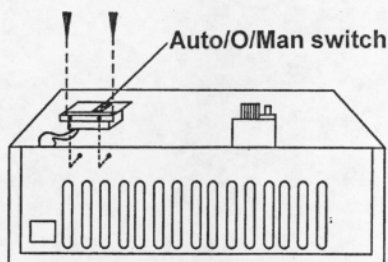

Figure3-Installing Blower Control Housing
4. Assemble the control housing on the back panel with the two screws previously removed (see Figure 3).